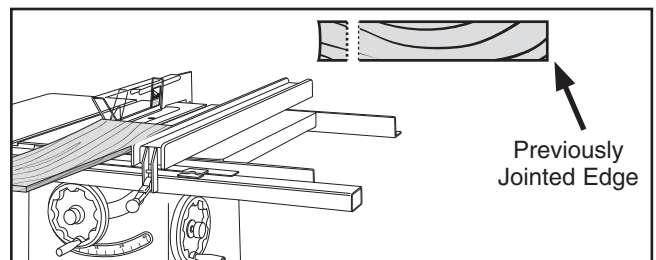

Figure 36. Rip cutting on a table saw.
4. **Rip Cut on a Table Saw:** The jointed edge of the workpiece is placed against the table saw fence and the opposite edge is cut off (see **Figure 36**).